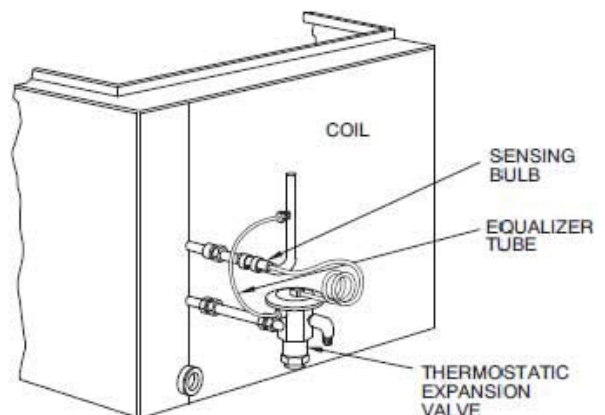

Fig. 27 – Typical TXV Installation
8. Attach TXV bulb to vapor tube inside cabinet, in same location as original was when removed, using supplied bulb clamps (nylon or copper). See Fig. 27 for correct positioning of sensing bulb.